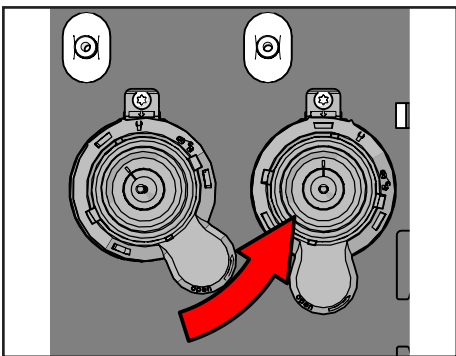

Figure 40.
12. Remove the mixer ring by turning it further counter-clockwise and pulling it from the base. (see Figure 40 + 41).